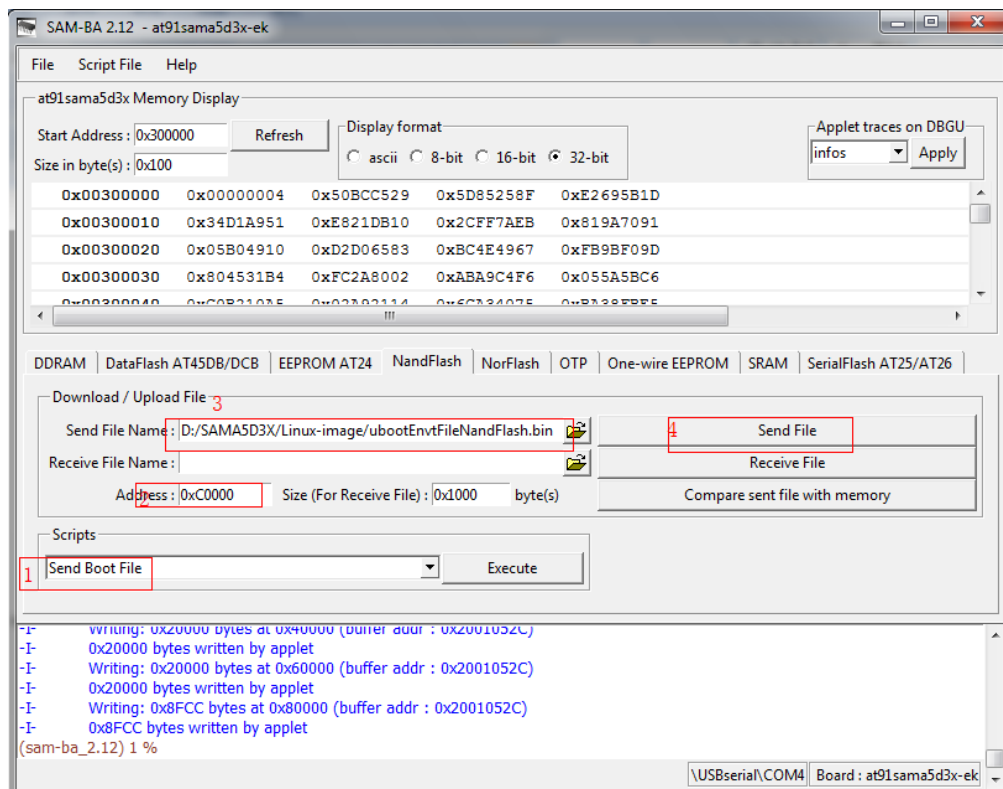

Figure 4-13
(8) Download [ubootEnvtFileNand-Flash.bin] to 0x000C 0000. Refer to figure 4-13: